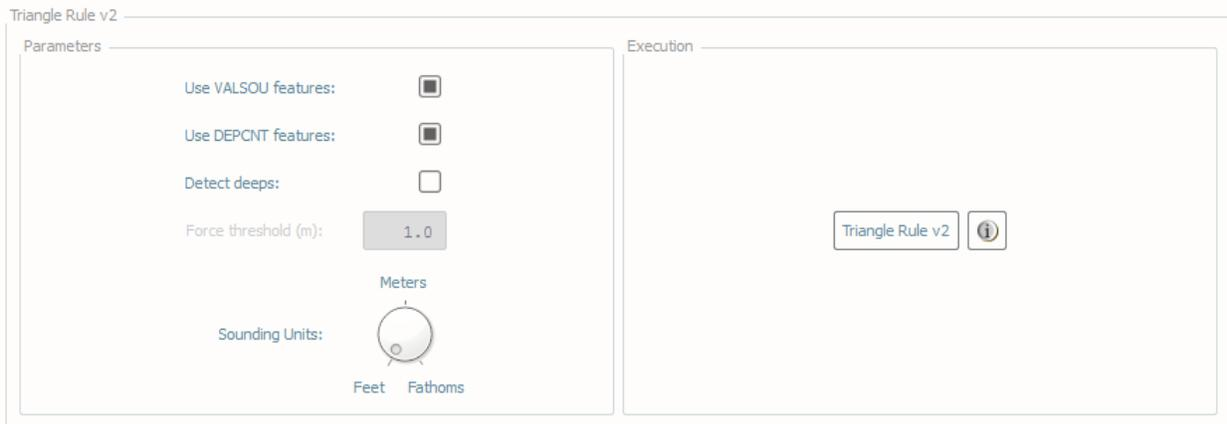

Fig. 2.48: Triangle rule's interface.
- In **Parameters** (Fig. 2.48, left side):
- In **Execution** (Fig. 2.48, right side), click **Triangle Rule v2**.